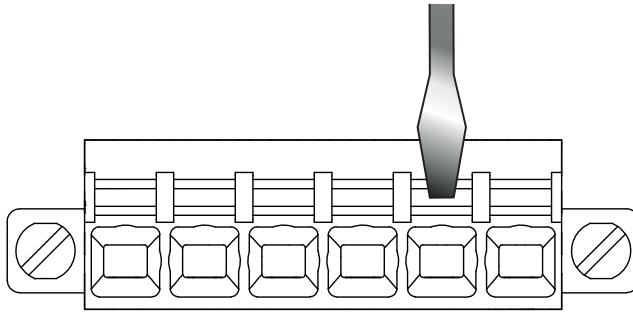

Figure 3: Connecting the 6-pin voltage terminal with spring
- ☐ To insert the cable, you open the terminal block by positioning the screwdriver as illustrated below and pressing on the lever (see figure 3).